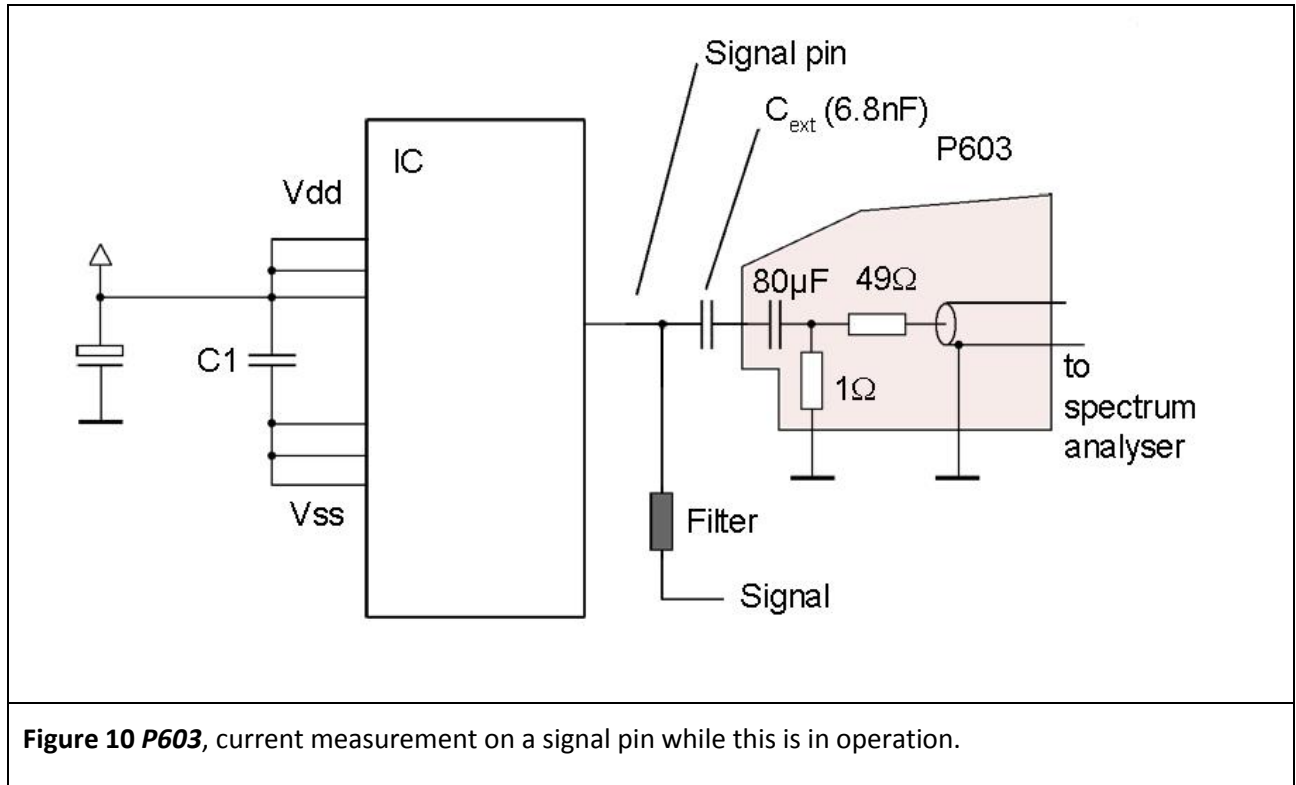

Figure 10 P603, current measurement on a signal pin while this is in operation.
5. Current measurement (**P603**) on a signal pin while this is in operation, **Figure 10**
The external capacitor C_{ext} can reduce the stress on the signal pin caused by the probe's low impedance (1 Ohm) (**Figure 10**) during current measurements on signal pins.